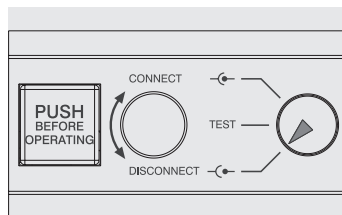

Figure 51
- circuit breaker in racked-out position (see Figure 51)